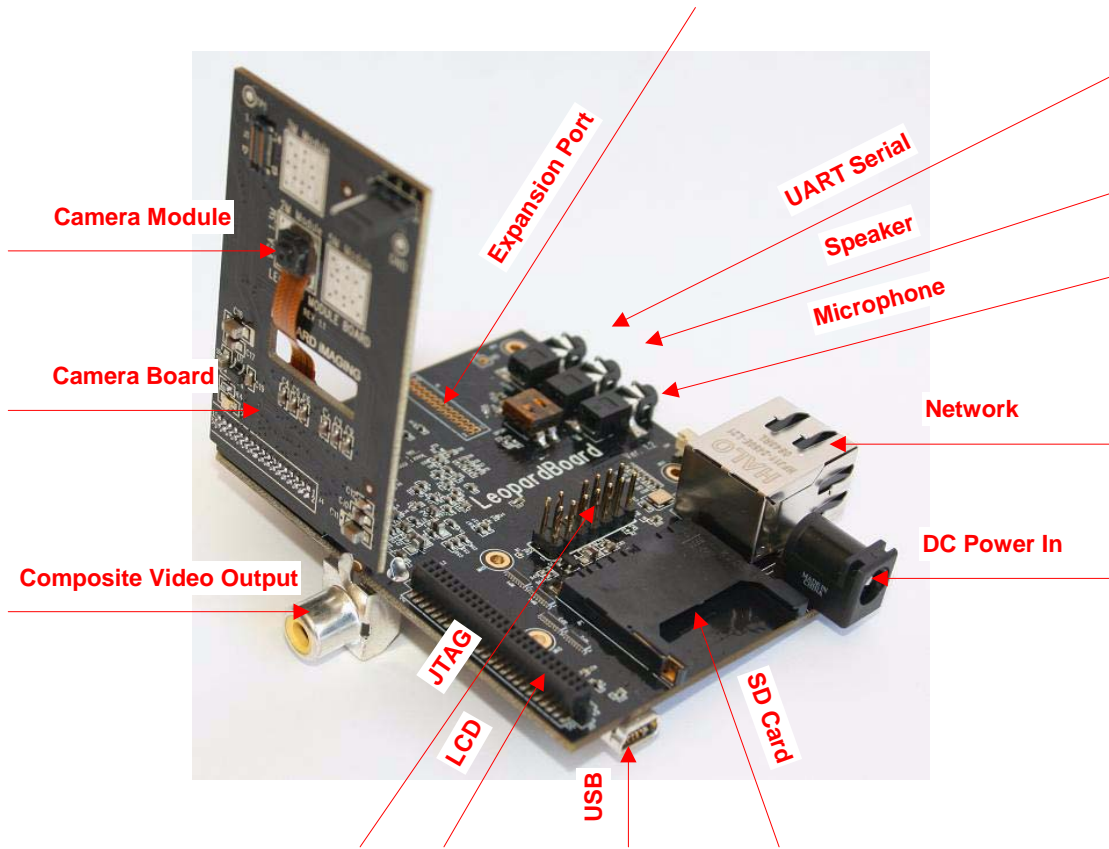

Figure 12. LeopardBoard Function Block
2.2 LeopardBoard Function Block, see Figure 12